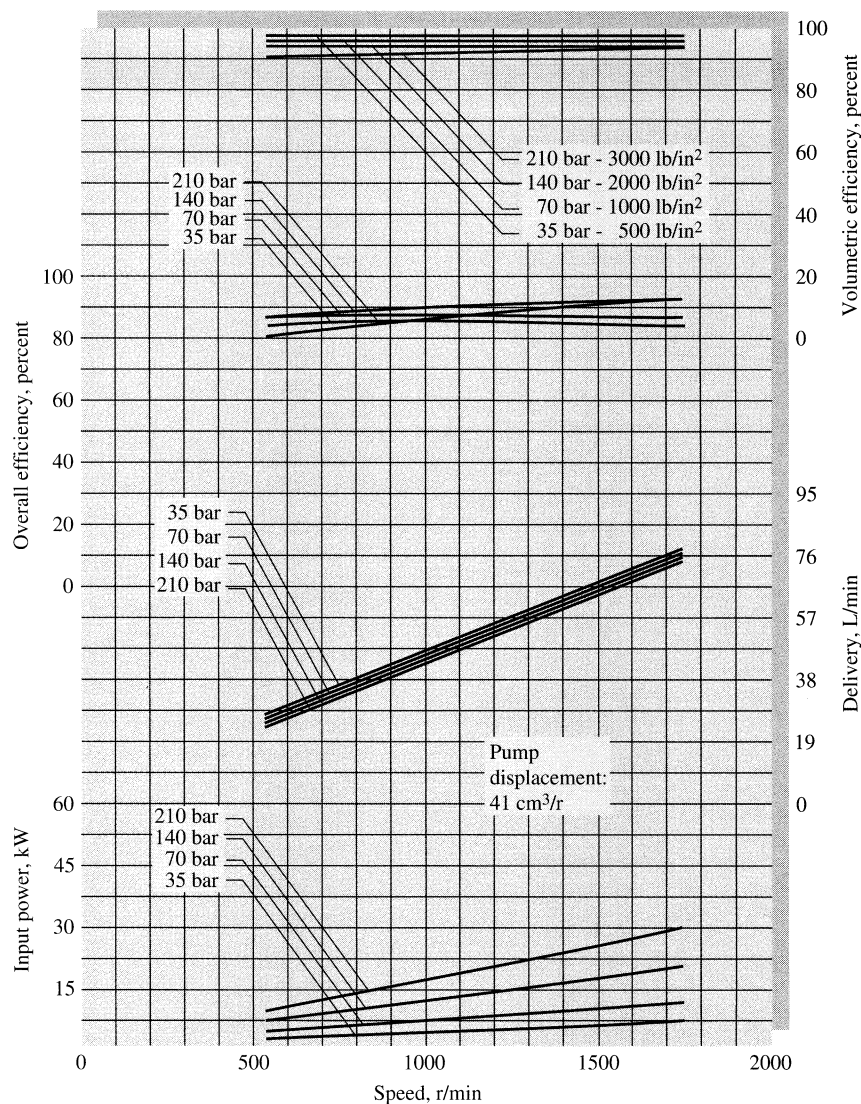

Fig. P11.9
**11.9** Figure P11.9 shows the measured performance of the Vickers Inc. Model PVQ40 piston pump when delivering SAE 10W oil at 180°F ( $\rho \approx 910 \text{ kg/m}^3$ ). Make some general observations about these data vis-à-vis Fig. 11.2 and your intuition about PDP behavior.
**11.10** Suppose that the pump of Fig. P11.9 is run at 1100 r/min against a pressure rise of 210 bar. (a) Using the measured displacement, estimate the theoretical delivery in gal/min. From the chart, estimate (b) the actual delivery; and (c) the overall efficiency.
**Solution:** (a) From Fig. P11.9, the pump displacement is 41 cm3. The theoretical delivery is
(b) From Fig. P11.9, at 1100 r/min and  $\Delta p = 210$  bar, read
(c) From Fig. P11.9, at 1100 r/min and  $\Delta p = 210$  bar, read  $\eta_{\text{overall}} \approx \mathbf{87\%}$ . *Ans. (c)*